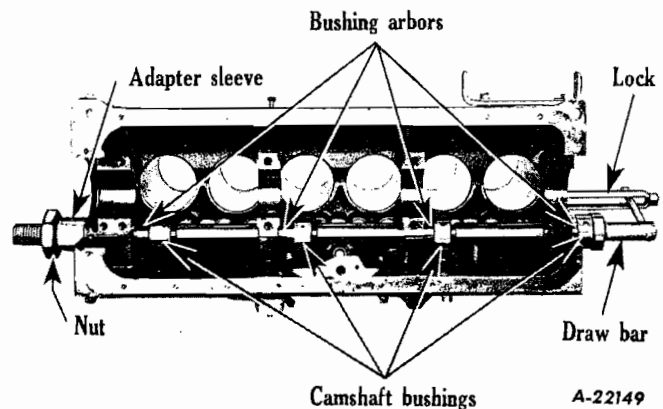

Fig. 33
3. Inspect camshaft bearings for damaged or scored condition, and inspect for wear. Replace if damaged or if worn beyond clearance limit of .0035". End play should be from .001" to .0035". Special tool equipment is available for installation of the prereamed camshaft bearings (Fig. 33).
If camshaft bearing replacement is necessary, remove and install new bushings with special camshaft bearing installation tool. No reaming is required. Fig. 33 illustrates the use of camshaft bearing installing tool.